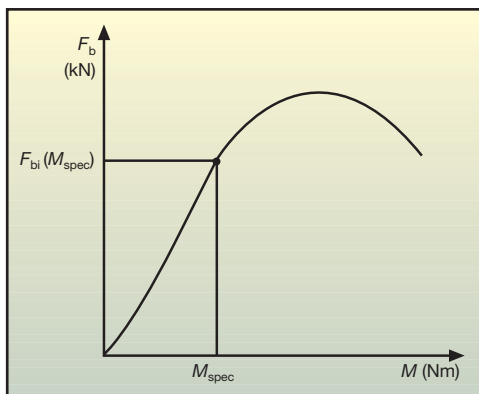

Figure 5: Torque/bolt force curve.
- The bolt force for a specified torque is determined from plotting figure 5.